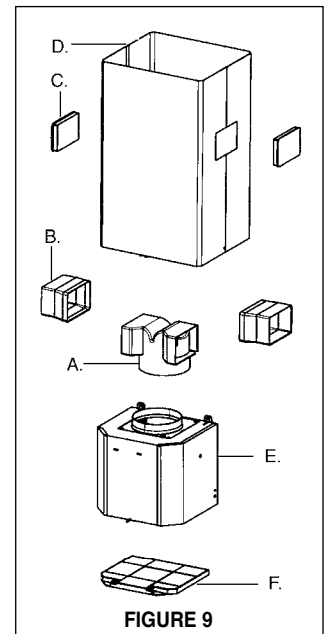

FIGURE 9
Ductless installations require a **Ductless Conversion Kit** whose components are pictured in FIGURE 9. Do not use the DAMPER (N in FIGURE 1) for ductless installations. The LOWER CHIMNEY COVER (B in FIGURE 1) should be discarded and replaced by the new one with holes from the **Ductless Conversion Kit** (D in FIGURE 9).
As indicated in FIGURE 9, place the DUCTLESS DIVERTER (A) over the exhaust opening of the EASY CUBE (E). Fit the DUCTLESS DIVERTER EXTENSIONS HORIZONTAL (B) into the DIVERTER (A).
For ductless installations, line up the DUCTLESS DIVERTER EXTENSIONS HORIZONTAL (B in FIGURE 9) with the holes in the LOWER CHIMNEY COVER (D in FIGURE 9) and snap in the VENT GRIDS (C in FIGURE 9).
For ductless installations, install the CHARCOAL FILTER (F in FIGURE 9) behind the center grease filter opening by inserting and locking into place.